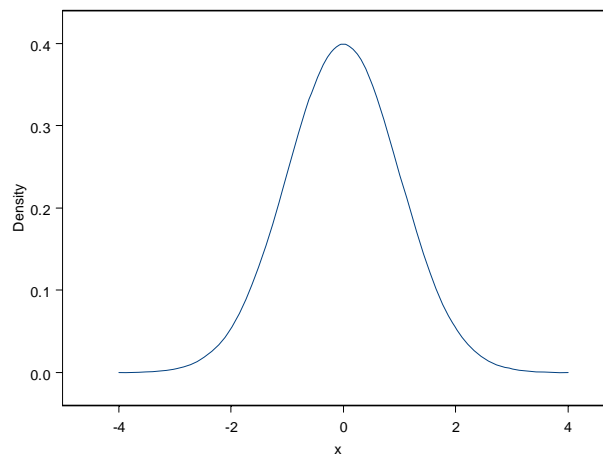
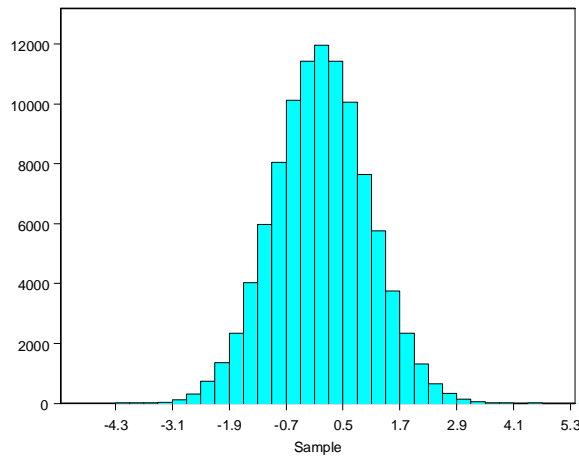

Figure 6.87: *The normal distribution with mean 0 and standard deviation 1.*
Figure 6.89: *A histogram of normal data.*
The **Distribution Functions** dialog allows us to easily graph a probability distribution, such as the normal distribution shown in Figure 6.87.
The following steps generate the plot of the normal distribution in Figure 6.87:
One way to develop an intuitive sense for the shape of a distribution is to repeatedly plot histograms of sampled data. Consider the shape of the normal density in Figure 6.87. If we state that a population distribution is normal, we are saying that the data have this shape. In other words, if we sample 100 observations from the population and generate a histogram from the data, we would expect the histogram to look similar to Figure 6.89. Let’s test how well this works in practice.
9. One aspect that might strike you about the histogram is how much it does *not* look like Figure 6.87 or Figure 6.89. Since the **Random Numbers** dialog is still open, you can generate a new sample of data by simply clicking **Apply** again. A new
The larger the sample size, the more likely the histogram is to look like Figure 6.89. However, even for larger data sets, the histogram rarely approaches the almost perfect look of Figure 6.89. For small sample sizes, the shapes you see may not even resemble the normal-shaped histogram we expect. Yet every single data set is normal: we know this because we generated the data from a normal distribution.
Figure 6.89 was generated using 100,000 observations. Try plotting some different distributions using large sample sizes (say 1,000 or 10,000 observations). Note the shapes of the different distributions.